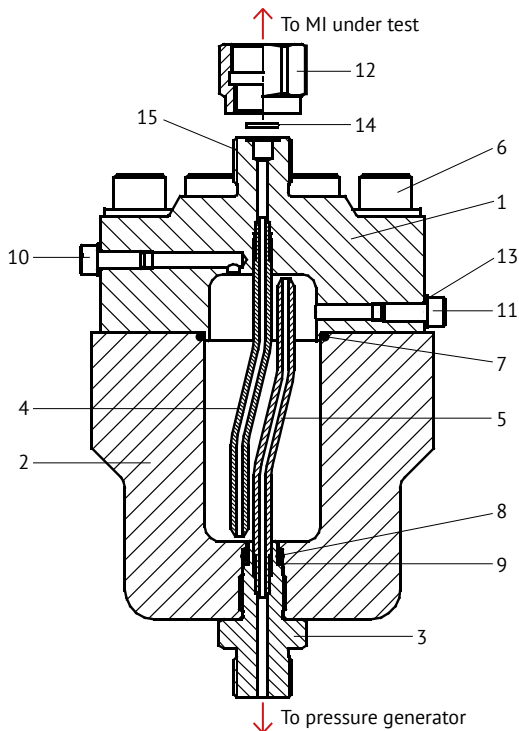

Fig. 1. Hydraulic separator:
4.1 Panel overview is shown in Fig. 1.
4.2 RGB housing consists of the upper part 1 (Fig. 1) and the lower part 2. Both parts are tightly connected with tubes 4 and 5. To fill the RGB with working liquids, screws 10 and 11 are provided on the upper part 1. To connect MI under test, in the upper part, there is connector 15 with left thread M20x1.5 which is used for connecting nut 12 screwing on (counter-clockwise). To tighten MI under test, rubber-metal sealing 14 is used. This sealing is mounted into ring groove. This sealing ensures tightness with low torques of the connecting nut (by hand). In the lower part 2, there is screwed-in connector 3 with thread M20x1.5 for